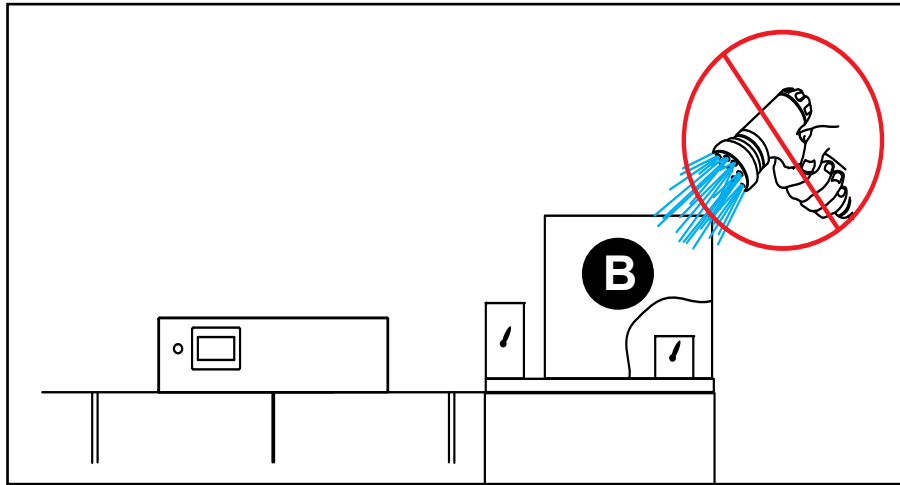

Fig. 19 - DO NOT SPRAY WATER INTO THE INTERNAL VENT B.
3. Do NOT SPRAY WATER INTO VENT B. (See Fig. 19).